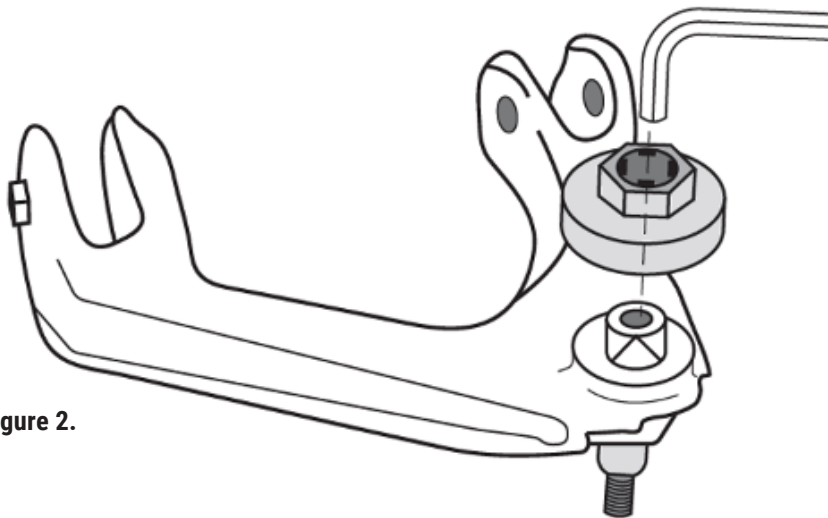

Figure 2.
- Hold ball joint in place with Allen wrench to prevent rotation and torque the top nut to (140LB-FT/190 N.M) at correct vehicle ride height. **See Figure 2.**